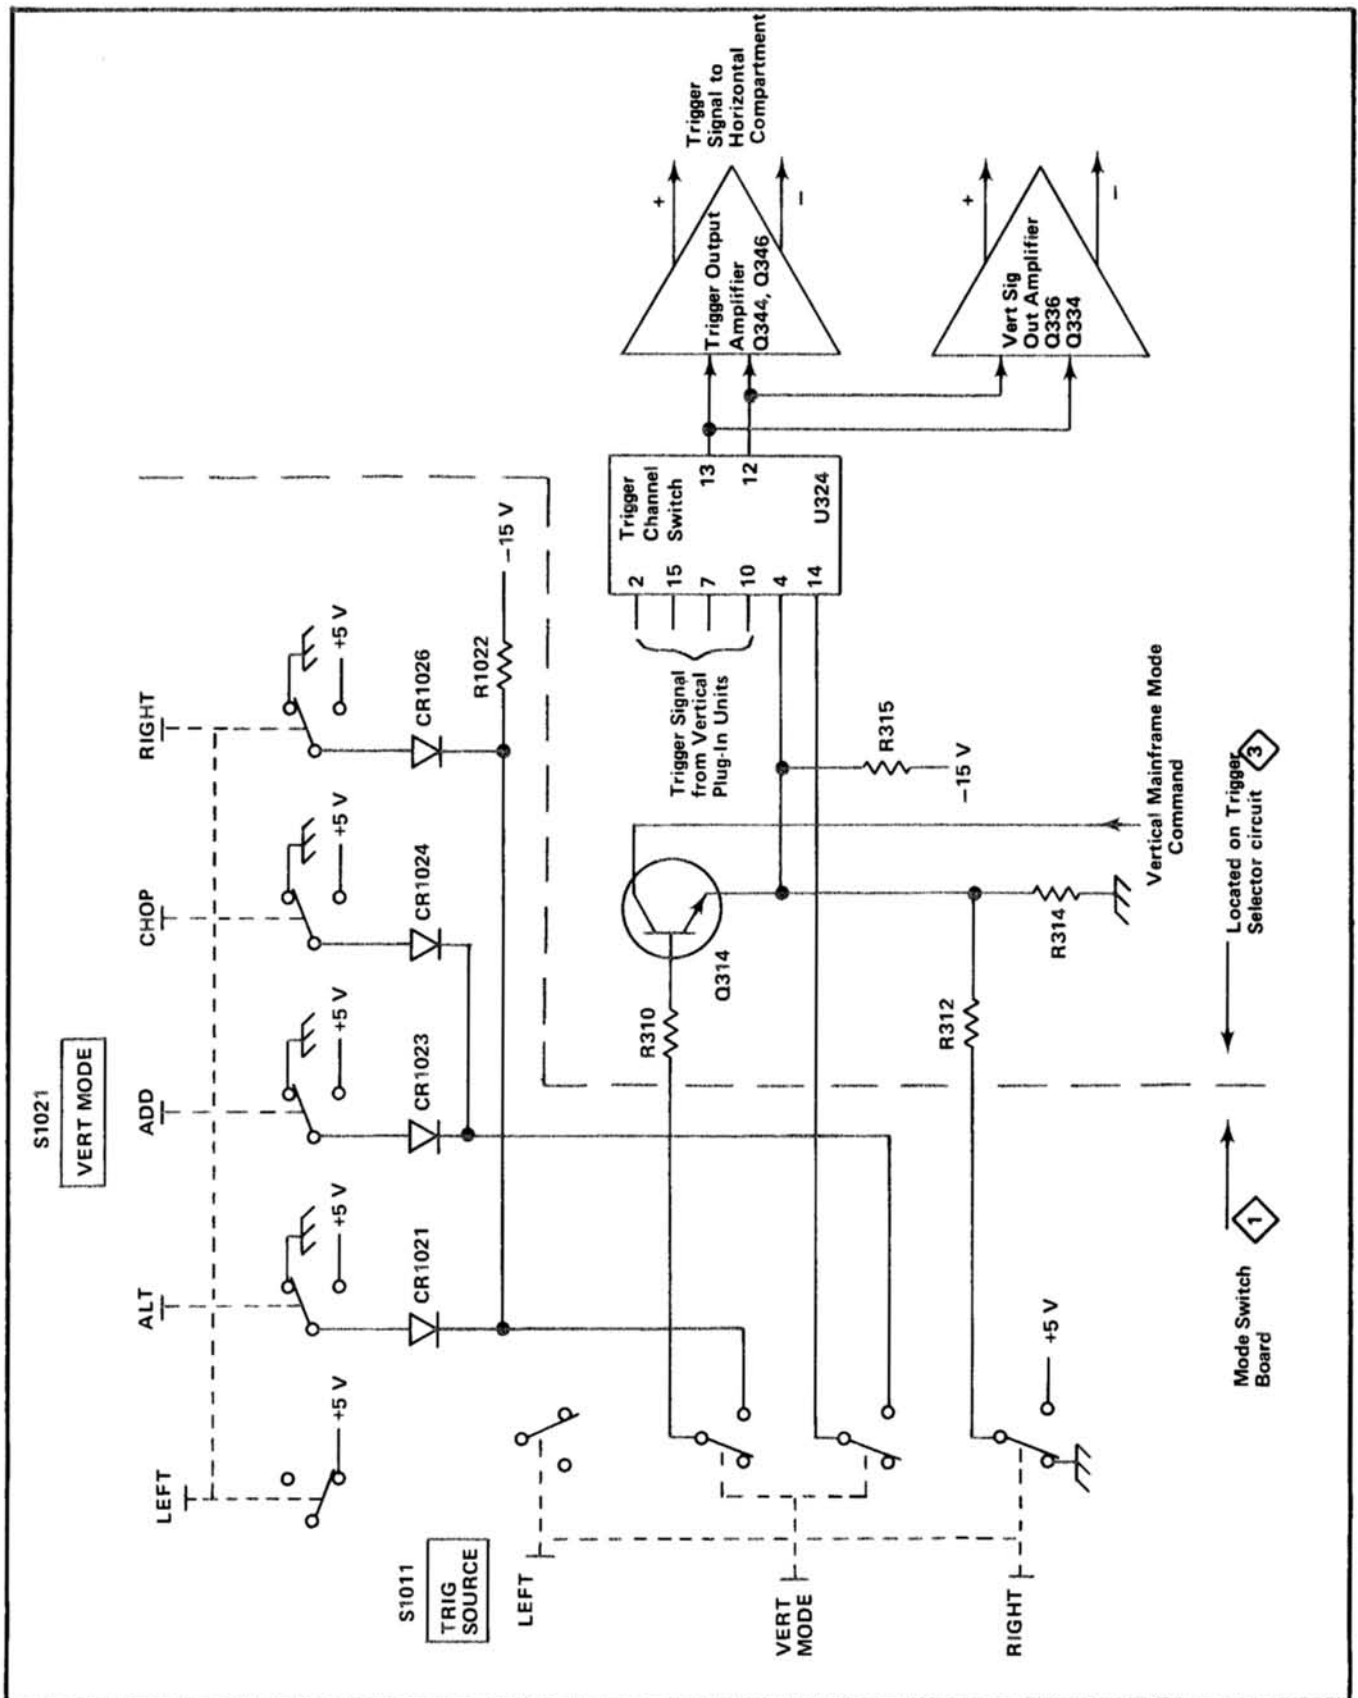

Fig. 3-13. Detailed block diagram of Trigger Selector circuit along with simplified diagram of trigger source selection circuitry.
The Trigger source switch determines which vertical signal is connected to the time-base unit, and which vertical signal, that is provided at VERT SIG/OUT connector on the rear panel. Fig. 3-13 shows a detailed block diagram of the Trigger Selector circuit, along with a simplified diagram of all the circuitry involved in selection of the trigger source. A schematic of the Trigger Selector circuit is shown on diagram 3 at the rear of this manual. Also, see diagrams 6 and 7 for the signal selection circuitry not shown on diagram 3.
**General.** The circuitry shown on the left side of the simplified diagram in Fig. 3-13 determines the operation of the Trigger Channel Switch stage. TRIG SOURCE switch S1011 controls Trigger Channel Switch U324. When the TRIG SOURCE switch is set to the VERT MODE position, the setting of the VERT MODE switch determines the trigger selection. In the LEFT or RIGHT positions, the trigger signal is obtained from the indicated vertical unit. The following discussions give detailed operation in each position of the TRIG SOURCE switch.